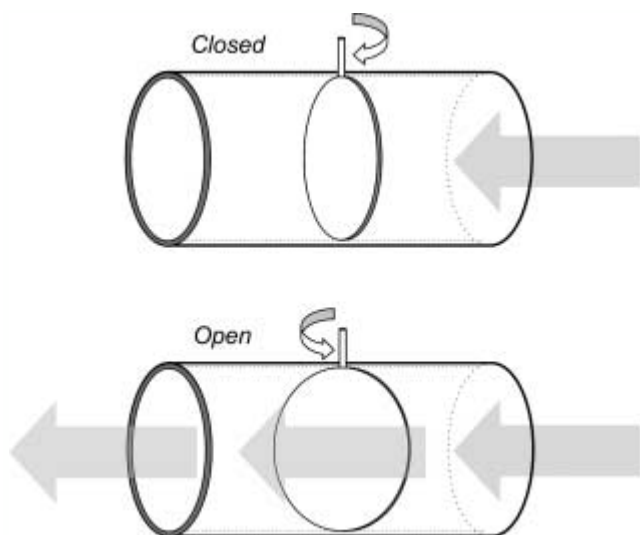

FIGURE 6.13 Butterfly valve.
- *Butterfly valves* use a thin plate within the pipe that can be turned perpendicular to the flow direction to impede the flow or parallel to the flow direction to allow flow (see Figure 6.13). They are usually used as on/off flow control but can occasionally be used for proportional flow control when the valve shaft is attached to a mechanical actuator. When operated as flow control, they behave as equal percentage valves. Butterfly valves come in sizes from half-inch to several feet in diameter.